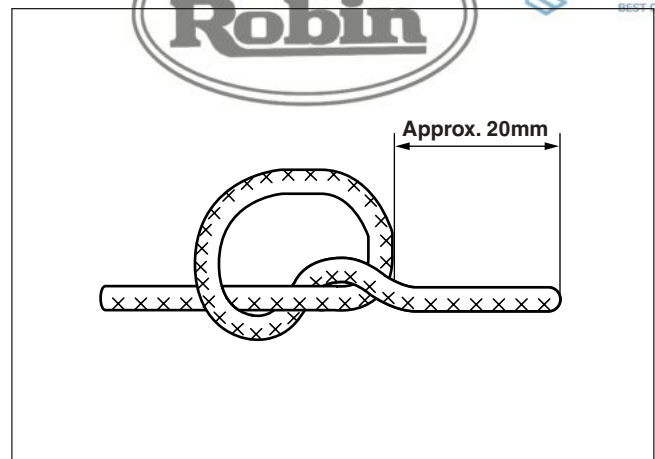

Fig. 13-8
- 2 Tie a knot in the rope end . (Fig. 13-8)